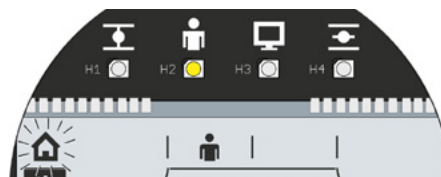

Fig. 5: Local operation menu active
2. Confirm selection. Press Drive Controller. The symbol is flashing normally (fig. 5) and the local operation menu is active.